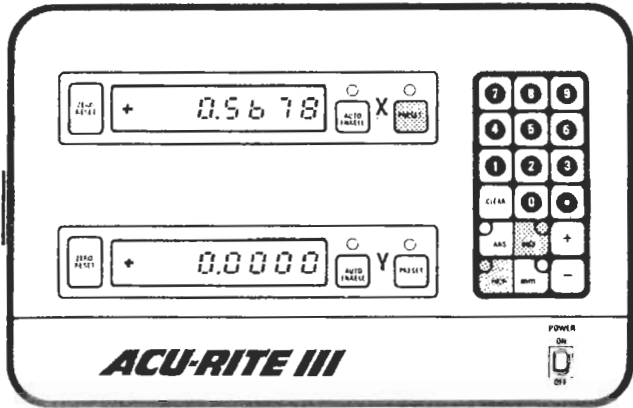

Figure 3-8. Console Status: Preset Value Display
- c. Push the PRESET key on the desired axis (see Figure 3-8). The key will light up, and the display will indicate the value in the preset memory (zero or any previously entered number).